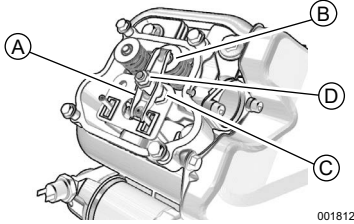
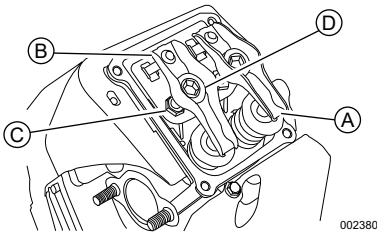

Figure 4-7. Valve Clearance Adjustment (10 kW)
Figure 4-8. Valve Clearance Adjustment (20-26 kW)
6. See Figure 4-7 or Figure 4-8. Verify valve clearance between each rocker arm (A) and valve stem (B) with a feeler gauge.
See Figure 4-7 or Figure 4-8. Proceed as follows to adjust valve clearance: